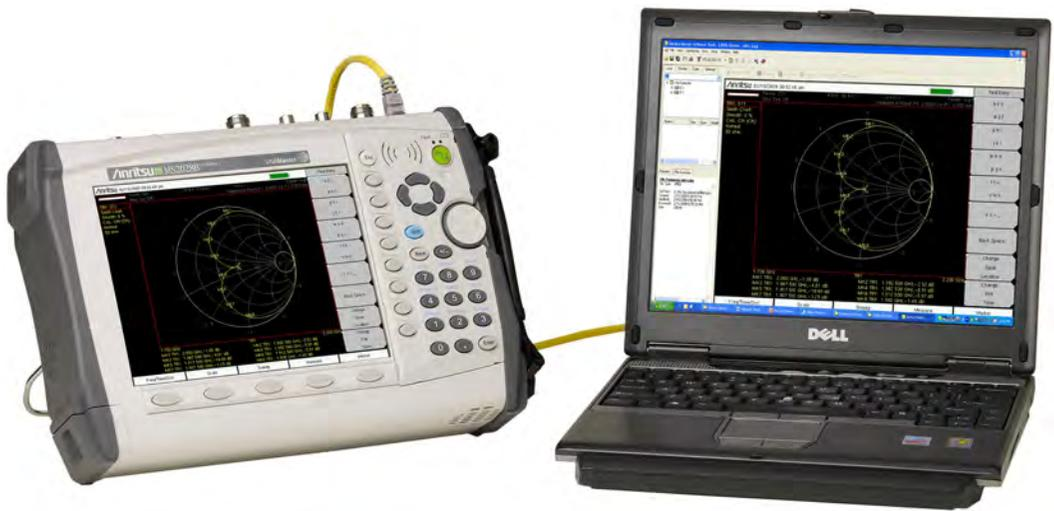

Figure 2-15. MS2028B Connected to PC via Ethernet
The USB 2.0 interface can be used to connect the VNA Master directly to a PC. Refer to Figure 2-12, item 14 for the USB connector location. Refer to Figure 2-15 for an example of a PC connection that is also using Master Software Tools. The first time that the VNA Master is connected to a PC, the normal USB device detection will be performed by the computer operating system. The CD-ROM that is shipped with the instrument contains a driver (for Windows 2000 and Windows XP) that is installed when Master Software Tools is installed. Drivers are not available for earlier versions of the Windows operating system. During the driver installation process, place the CD-ROM in the computer drive and specify that the installation wizard should search the CD-ROM for the driver.